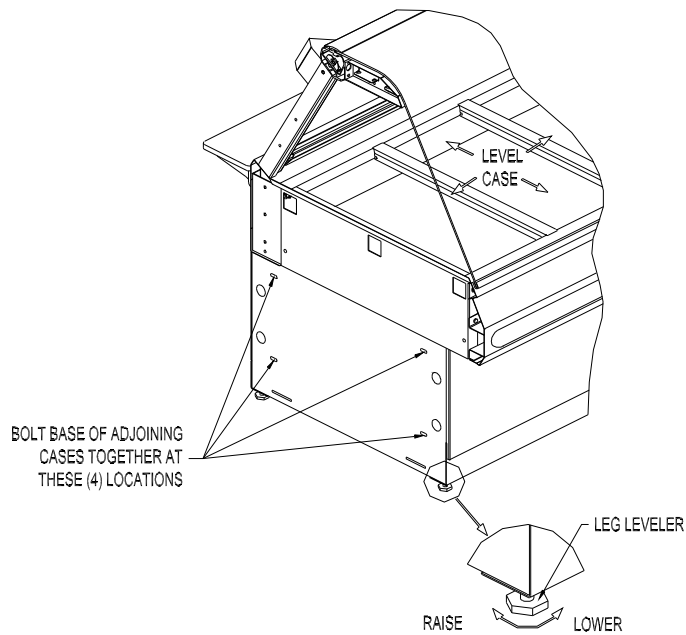

Figure 1. Floor Models - Leveling
Deli cases must be installed level to insure proper operation and alignment to adjoining equipment. Use a carpenter's level as shown in Figure 1. Begin lineup leveling from the highest point of the store floor.
1. Level the case using the leg levelers at the corners of the case (Figure 1).
6. When level, bolt the two cases together at the locations shown in Figure 1.
Counter Mounted cases must be mounted on a level surface that can support the weight of the case and its contents. Use a carpenter's level as shown in Figure 1 to level the case.